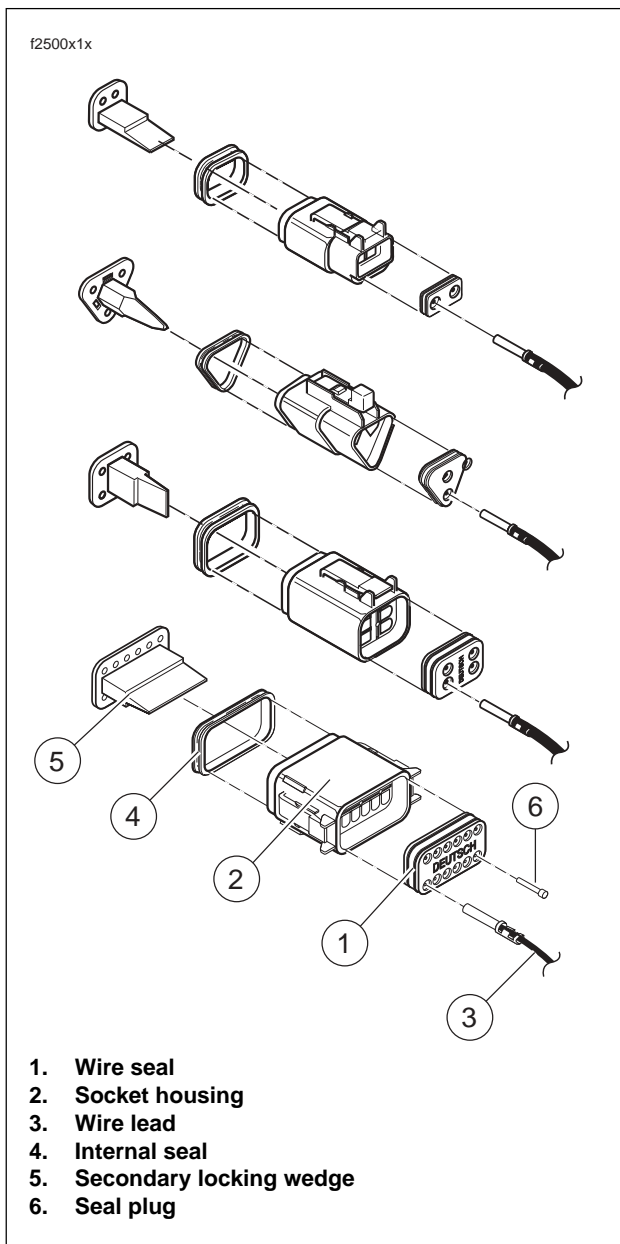

Figure B-11. Two, Three, Four and Six Place Socket Housings
2. See Figure B-11. Fit rear wire seal (1) into back of socket housing (2), if removed.
3. Grasp wire lead approximately 1 in. (25.4 mm) behind the socket terminal (3). Gently push socket through hole in wire seal into its chambers until it “clicks” in place.